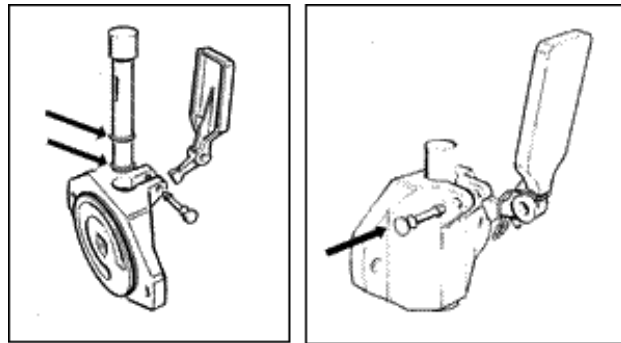

Fig. 59
- After installing the piston seals and lubricating them as necessary (Fig. 59), insert the piston into its housing in the flange, mount the dispensing lever together with its spring and connect them with the fixing pin (Fig. 59).